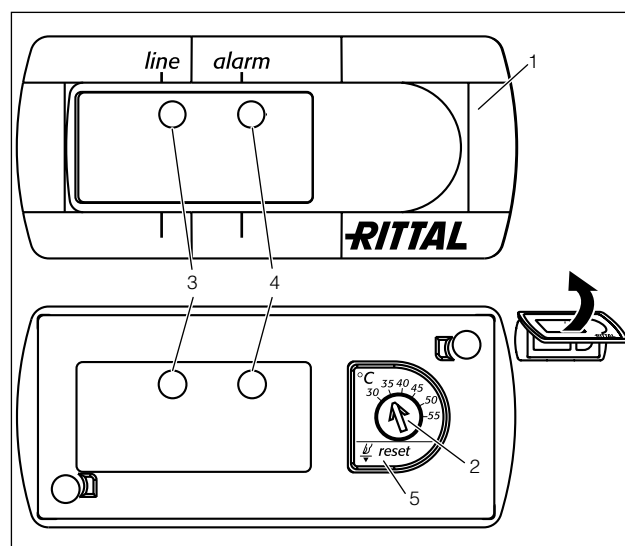

Fig. 36: Basic controller
The Basic controller monitors and controls the cooling unit. It indicates the operating and error status via the green and red LEDs (Fig. 36, no. 3 and 4):
- Set the required temperature on the temperature setting device (Fig. 36, page 23).
- Press the reset button (Fig. 36, no. 5) for at least 3 sec.